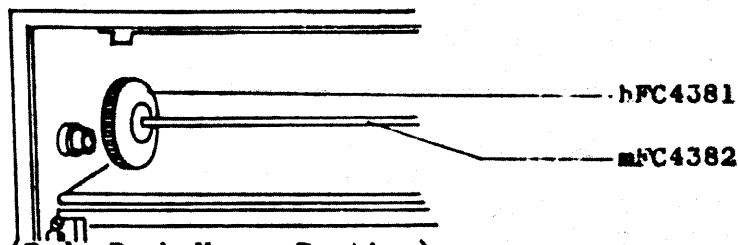

**Fig. 6**
**Refer to Fig. 6 for hanging each spring.**
**Since the spring for pawl gFC4194 may slip off, (A) is cemented with D.B. Bond.**
(1).11 The dividing disk assembly mFC4354K2 can be taken off when the exposure counter shaft cFC4351 is loosened. Do not loosen cFC4379. (See Fig. 6)
**(2) Assembly**